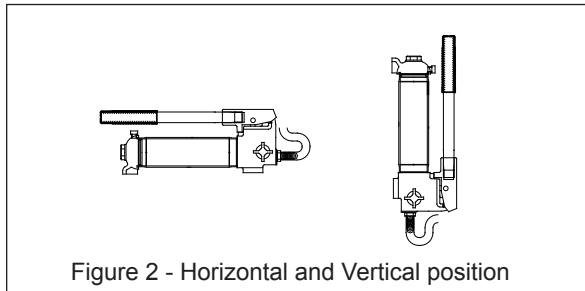

Figure 2 - Horizontal and Vertical position
1. Pump may be used in horizontal and vertical position as illustrated in figure 2 below.